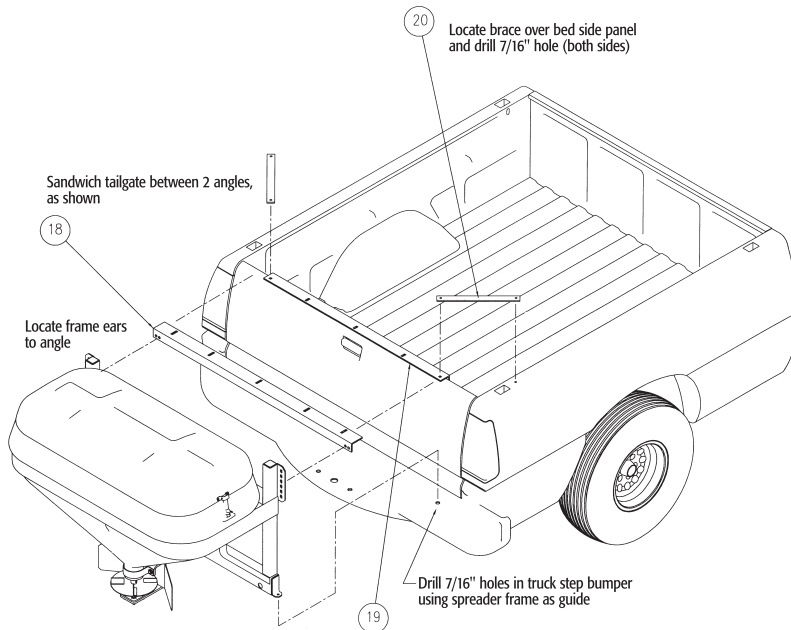
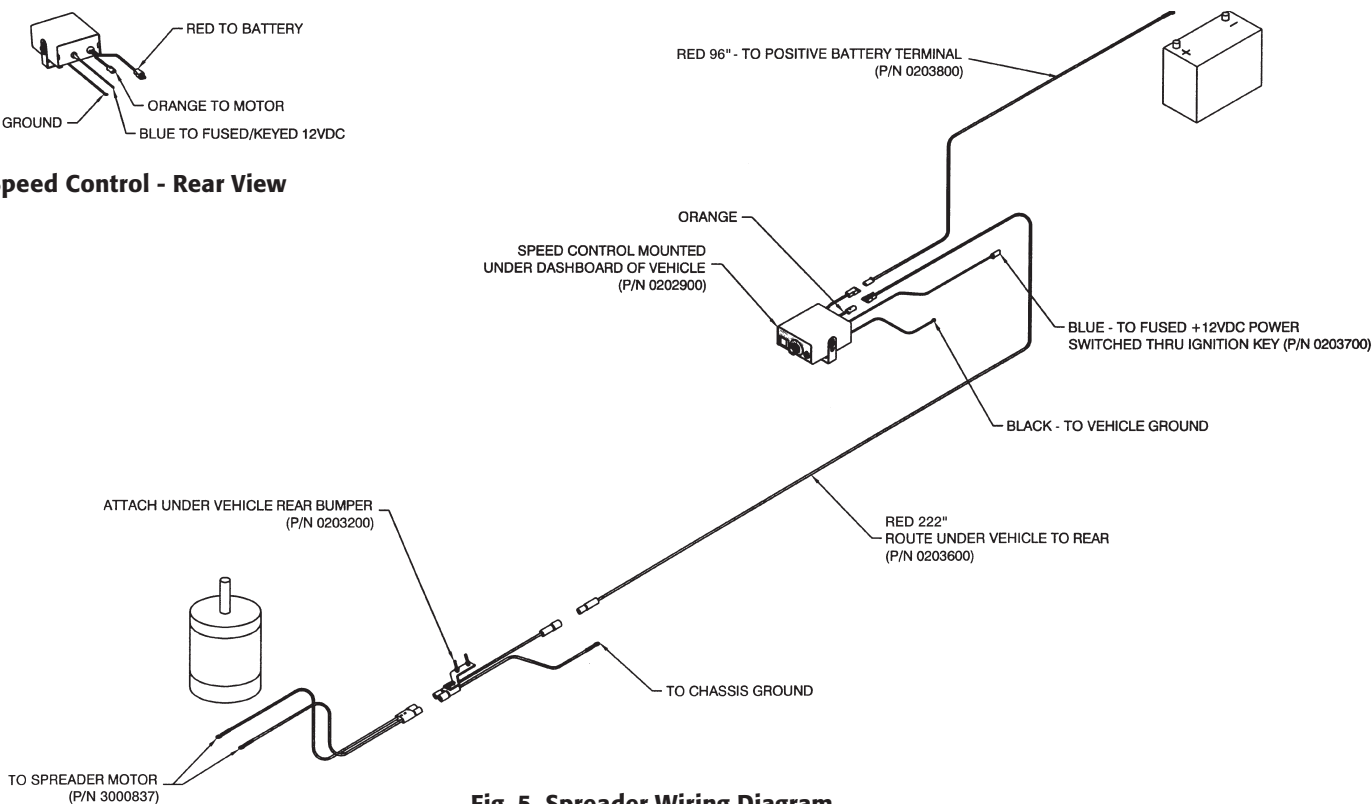

Fig. 1 Mounting
Fig. 5 Spreader Wiring Diagram
1. Assemble and install angles and braces. Refer to Fig. 1.
b. Refer to Fig. 1 and assemble angles and braces (18, 19 and 20) as shown.
2. Install spreader assembly. Refer to Fig. 1.
a. Position spreader assembly on rear step bumper and align frame uprights with drilled holes in angle (18). Make certain frame uprights are vertical, then adjust to stop against spreader frame. Fasten frame to angle as shown.
3. Electrical installation. Refer to Fig. 5